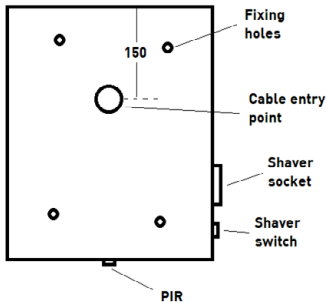

Fig. 1
- Using the base as a template, mark the location for, and drill the fixing holes ensuring not to infringe with any gas/water pipes or electrical cables. Please note the fixing holes are offset (see Fig. 1)